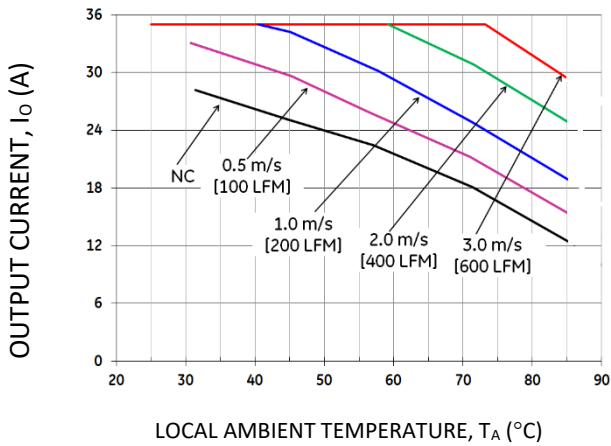

Figure 18. Output Current Derating for the Open Frame QSDW035A0B in the Transverse Orientation; Airflow Direction from Vin(-) to Vin(+); Vin = 48V.
Increased airflow over the module enhances the heat transfer via convection. The thermal derating of figure 18- 19 shows the maximum output current that can be delivered by each module in the indicated orientation without exceeding the maximum THx temperature versus local ambient temperature (TA) for several air flow conditions.
The use of Figure 18 is shown in the following example:
Determine required airflow velocity (Use Figure 18):